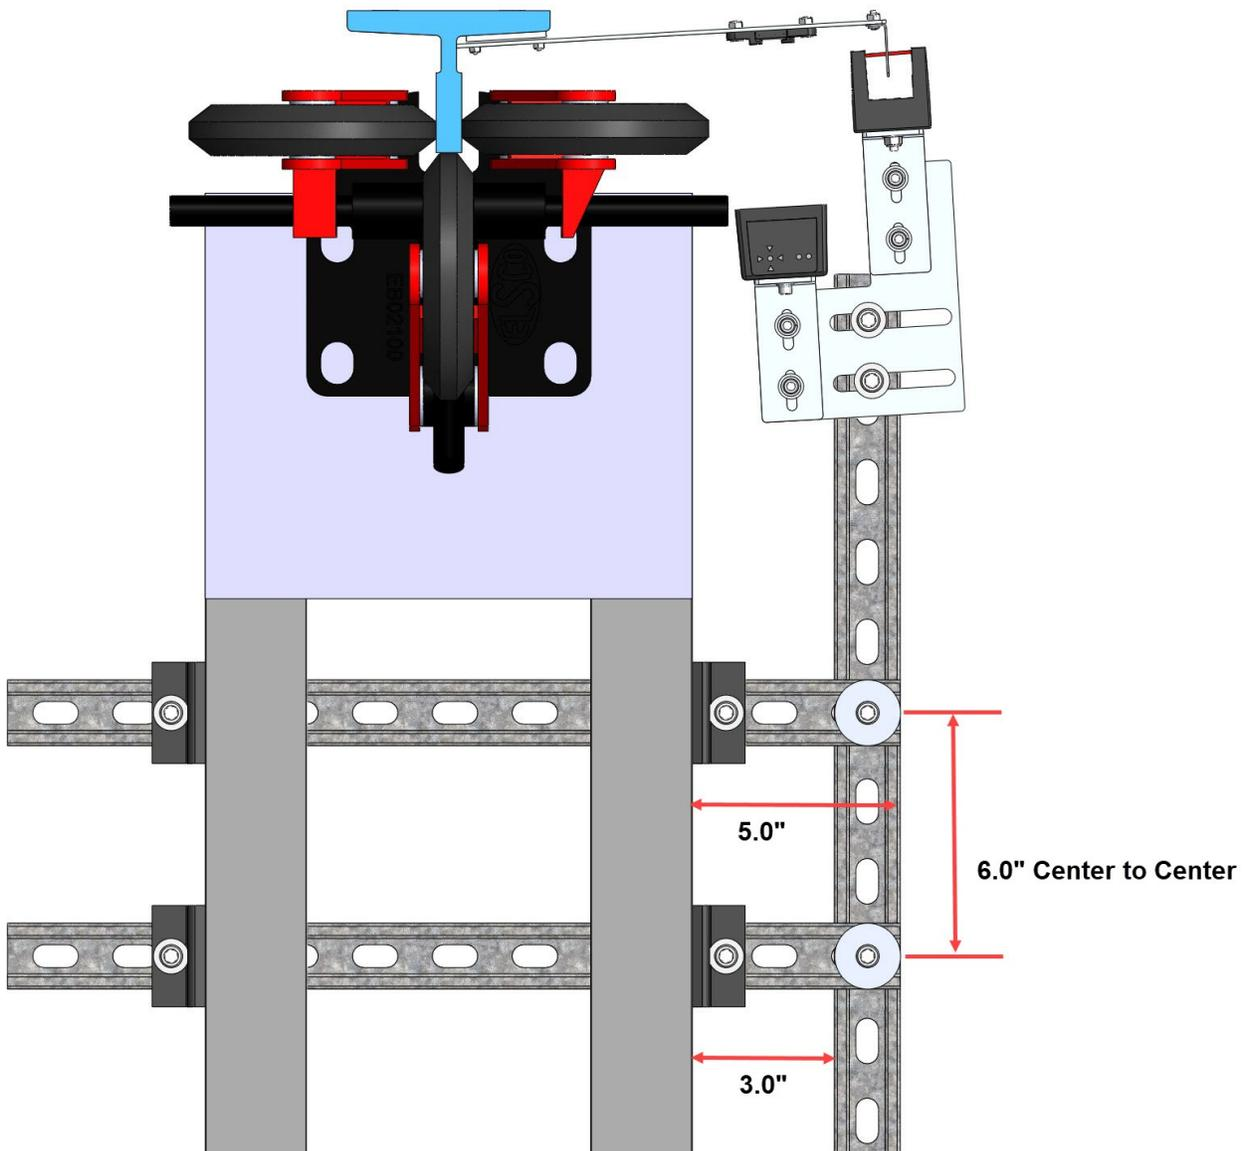

Figure 5: Unistrut Installation
NOTE: Exact positioning and lengths of the Unistrut can be adjusted as needed if the Sensor Array is positioned as shown in Figure 5.
3. Bolt the 24" length of Unistrut to the two 18" lengths of Unistrut. See Figure 5.